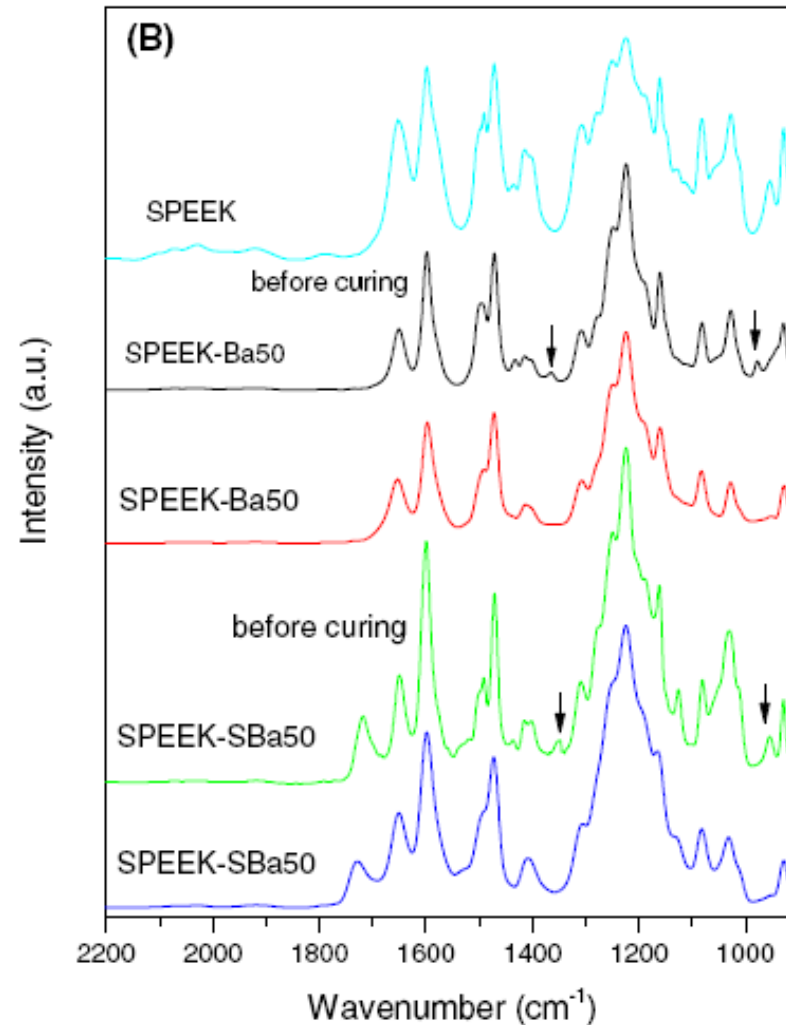

Figure 2. The FTIR spectrum of (A) Ba, ABa and SBa (B) uncrosslinked and crosslinked SPEEK with Ba and SBa membranes, respectively.
Figure 2. NMRD profiles for the Group I samples A (■), B (■) and C (■). The solid line is a simulation for a SPM dispersion with $D_{\text{core}} = 12$ nm, $\Delta E_{\text{min}} = 1$ GHz, $M_s = 49$ emu.g $^{-1}$. All measurements were carried out at $25^\circ\text{C} \pm 1^\circ\text{C}$, with a measuring frequency of 9.25 MHz, on a Stellar FFC2000.
- Figure 2, a) Photo induced absorption (PIA) spectra for 1.4 μm thick mesoporous TiO₂ films sensitized with Ru-bpy-TPA (circles) and Ru-bpy-Me (lines), pumped at 488 nm with an intensity of 128 mWcm⁻² and a frequency of 200 Hz. The open circles and the dashed line correspond to the out-of-phase signals for the Ru-bpy-TPA and Ru-bpy-Me respectively. b) The frequency dependence of the PIA signal ($\text{dr} = (\text{dx}^2 + \text{dy}^2)$) at 800 nm (1.55 eV) under the same pump beam conditions as above. c) Transient absorption spectroscopy (TAS) of two similar samples to above, Ru-bpy-TPA (dark solid circles, solid line) and Ru-bpy-TPA (gray open circles, dashed line) of the transient absorption signal at 650 nm (~ 1.9 eV absorption of the oxidized dye species). The pump was at 600nm with a pulse width of ~ 5 ns with 35 $\mu\text{J}/\text{pulse}$ and a repetition rate of 30 Hz.